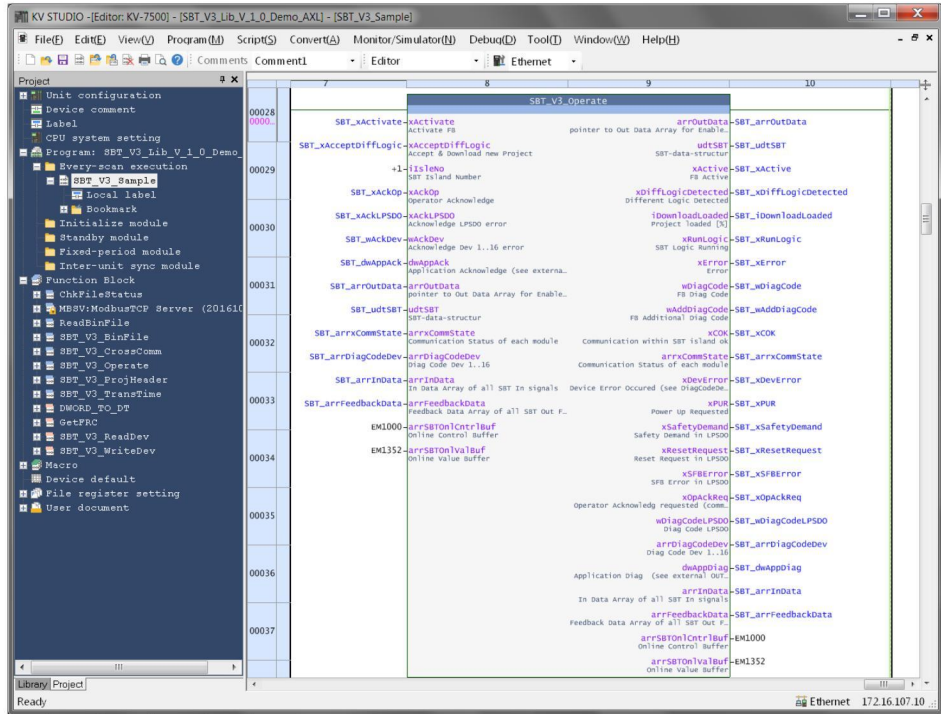

Figure 4-22 Function block SBT\_V3\_Operate
- Connect the function block as shown in Figure 4-22.